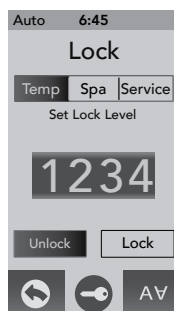

Figure 12.10c
**D. To Unlock (Figure 12.10c):**